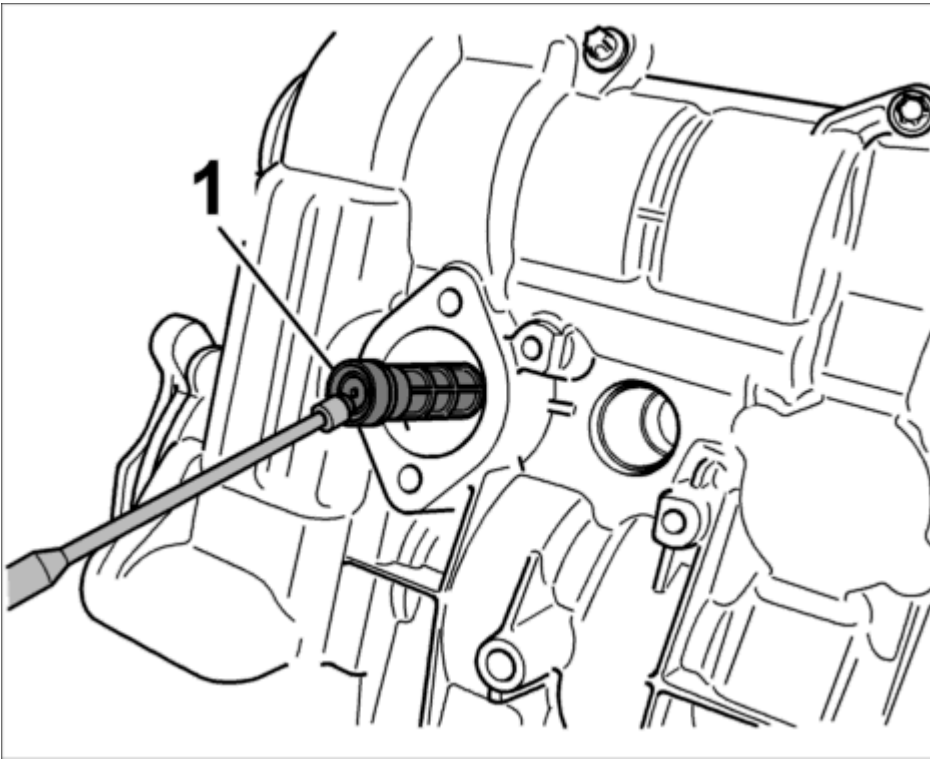

Fig. 163: Oil strainer hydraulic valve NVS
6. Pull the oil strainer -1- out of the cylinder head bore using a bar magnet. Clean using solvent naphtha, check for damage and soiling, and replace if necessary. Pay attention to the installation position. See **Fig. 163**.